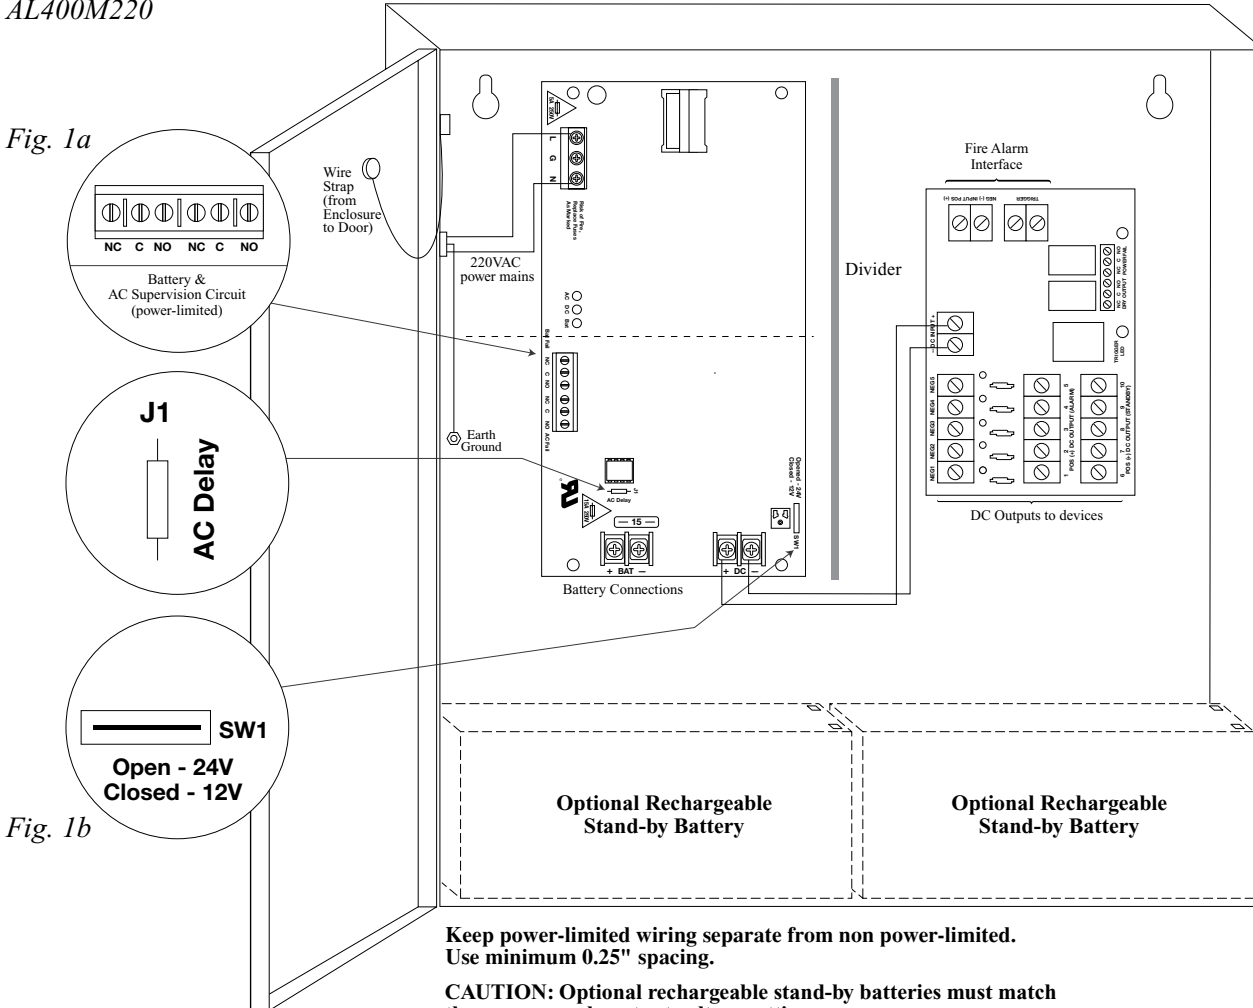
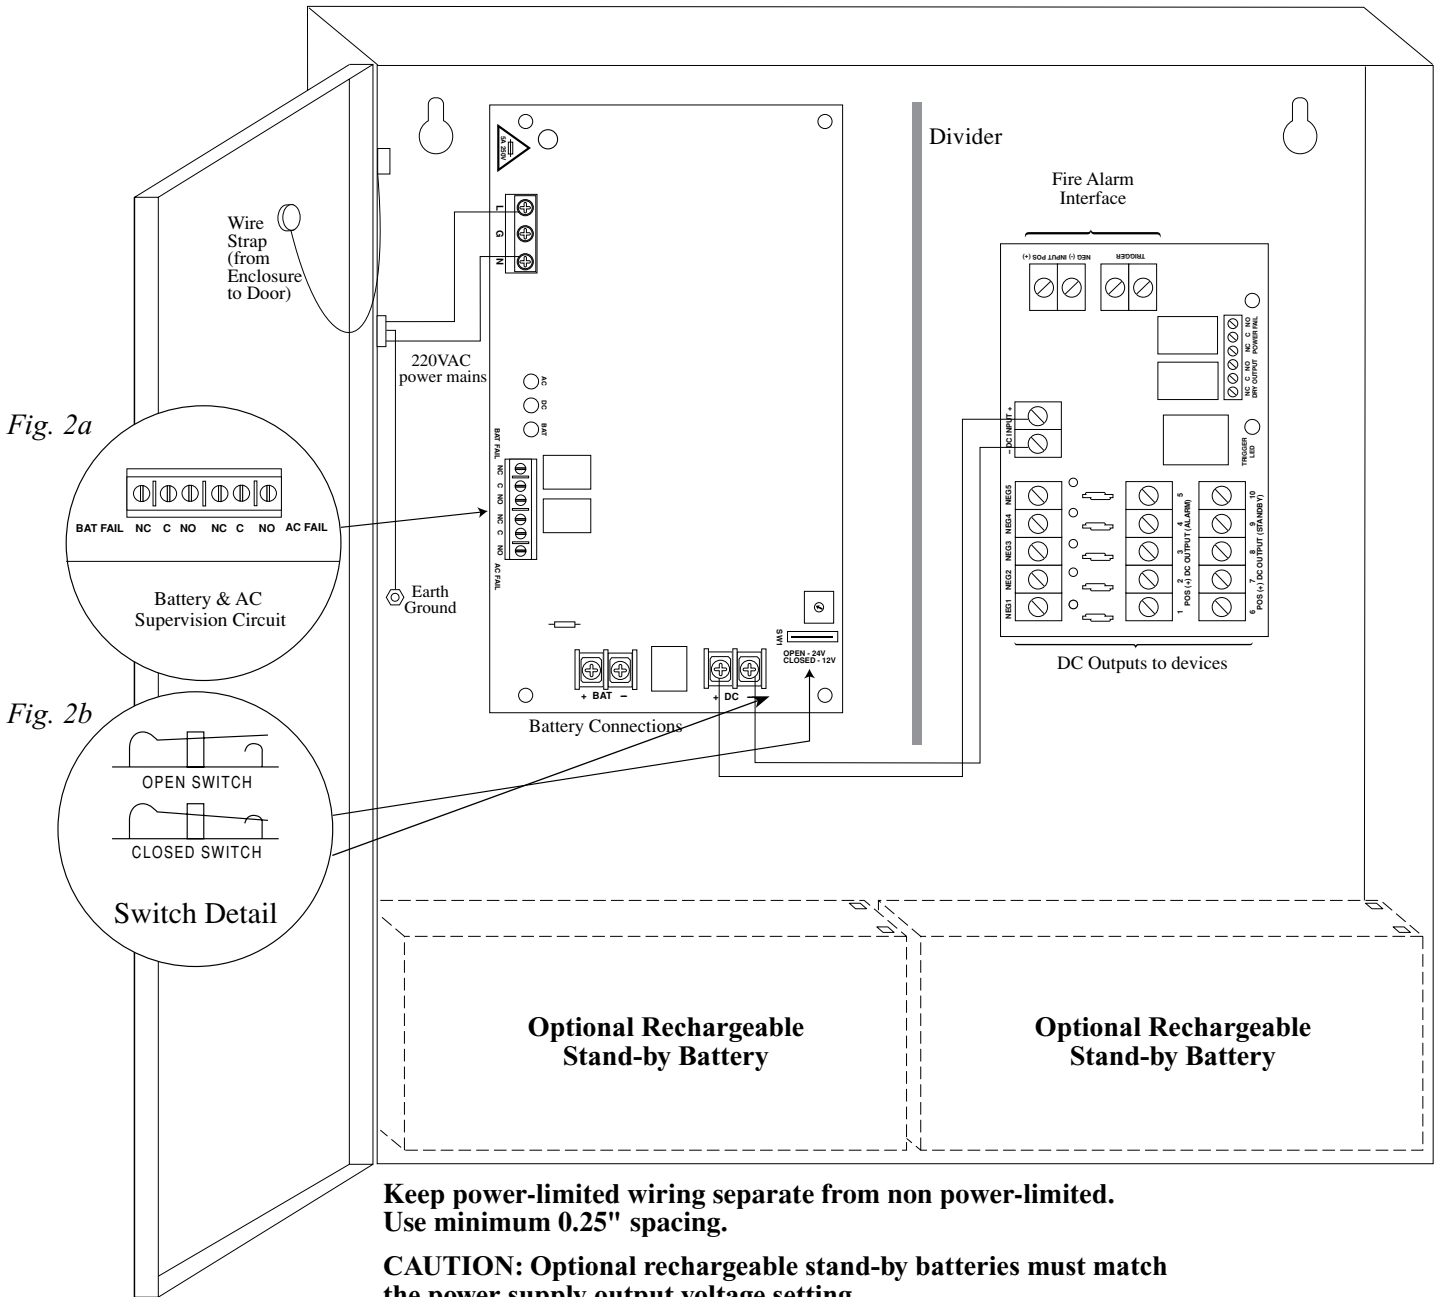

Fig. 2
Fig. 3
3. Secure green lead to earth ground. Connect AC power (220VAC 50/60Hz) to the terminals marked [L, N] on power supply board (*Fig. 1, pg. 5; Fig. 2, pg. 6; Fig. 3, pg. 7; Fig. 4, pg. 8*).
5. Connect Fail-Secure type locking hardware (e.g. door strikes and electronic dead bolts) positive leads to the terminals marked [1 through 5 POS (+) DC OUTPUT (ALARM)] on MOM5 board and the negative leads to terminals marked [NEG 1 through NEG 5] on MOM5 board (*Fig. 1, pg. 5; Fig. 2, pg. 6; Fig. 3, pg. 7; Fig. 4, pg. 8*).
6. Connect Fail-Safe type locking hardware (e.g. mag locks, door strikes and door holders) positive leads to the terminals marked [6 through 10 POS (+) DC OUTPUT (STAND-BY)] on MOM5 board and negative leads to the terminals marked [NEG 1 through NEG 5] on MOM5 board (*Fig. 1, pg. 5; Fig. 2, pg. 6; Fig. 3, pg. 7; Fig. 4, pg. 8*).
7. To trigger the unit from a FACP connect signaling circuit of FACP to the terminals marked [- INPUT +] on MOM5 board (*Fig. 1, pg. 5; Fig. 2, pg. 6; Fig. 3, pg. 7; Fig. 4, pg. 8*). Polarity is shown in alarm condition. For latching fire alarm interface see *Figs. 8, 9, 10, pg. 12*.
9. Connect auxiliary devices triggered by the unit to the terminals marked [DRY OUTPUT NO & C] on MOM5 board for normally open output or terminals marked [DRY OUTPUT NC & C] on MOM5 board for normally closed output (*Fig. 1, pg. 5; Fig. 2, pg. 6; Fig. 3, pg. 7; Fig. 4, pg. 8*).
10. For Access Control applications batteries are optional. When batteries are not used, a loss of AC will result in the loss of output voltage. Batteries must be lead acid or gel type if used. Connect one (1) 12VDC battery to the terminals marked [+ BAT -] on power supply board for 12VDC operation (*Fig. 1, pg. 5; Fig. 2, pg. 6; Fig. 3, pg. 7; Fig. 4, pg. 8*). Use two (2) 12VDC batteries connected in series for 24VDC operation. (Battery leads included).